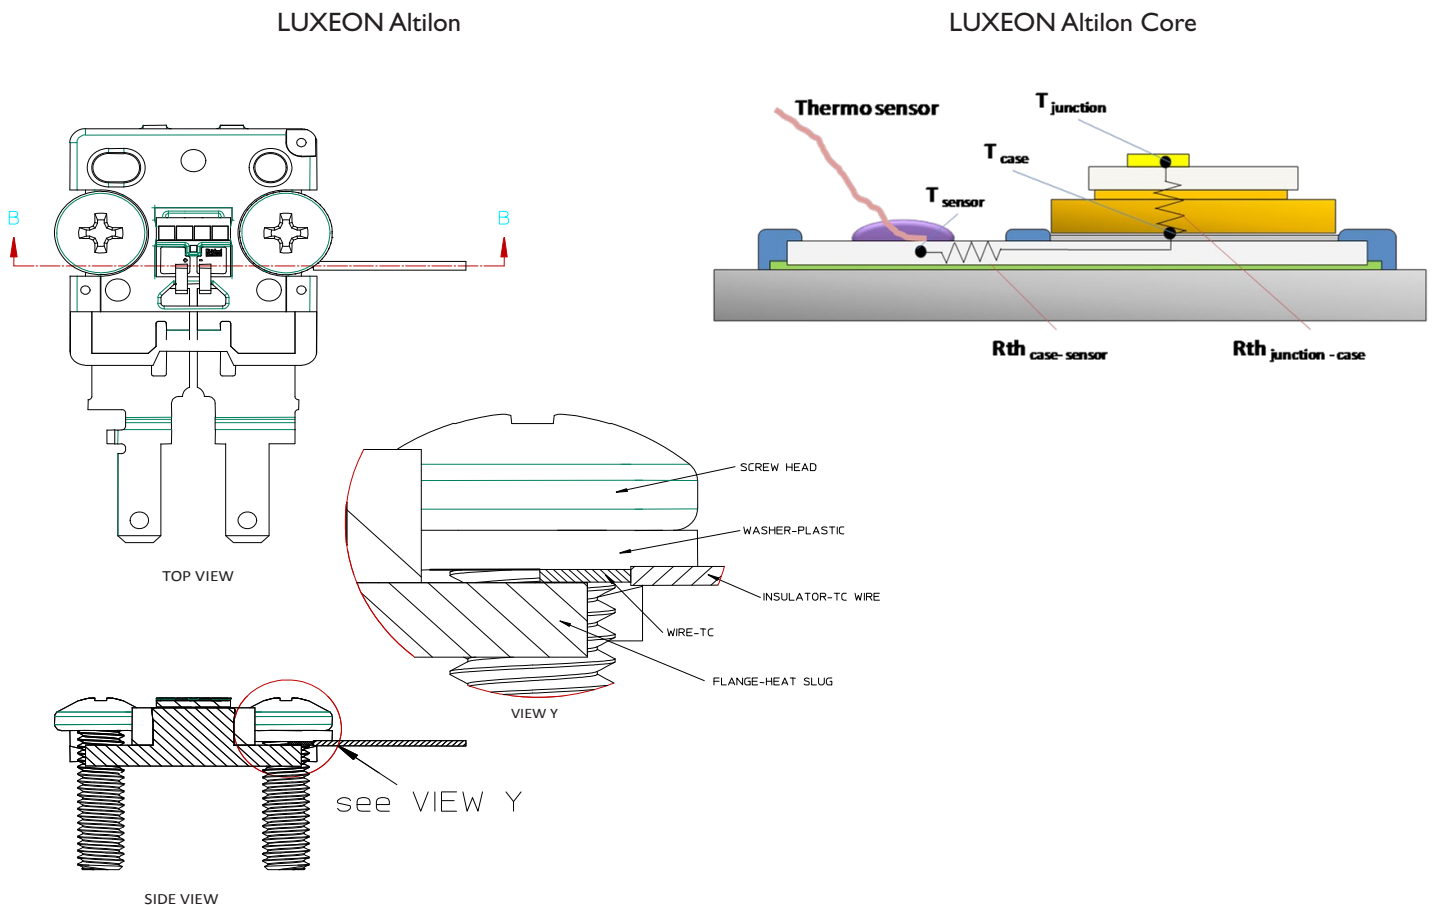

Figure 7. Case temperature measurement.
1. As measured at the position indicated in Figure 7.